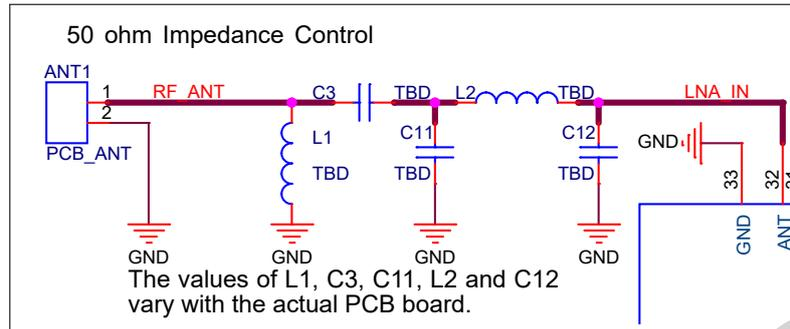

Figure 7: Schematic for RF Matching
- For the chip matching circuit, it must be placed close to the chip. It is recommended to use the CLCCL structure to form a bandpass filter, which is mainly used to adjust impedance points, suppress harmonics, and suppress low-frequency noise (especially in applications such as electrical lighting where the effect is significant). If there is no AC-to-DC circuit in the user application, a simpler CLC structure can be considered. The CLCCL matching circuit is shown in Figure 7.